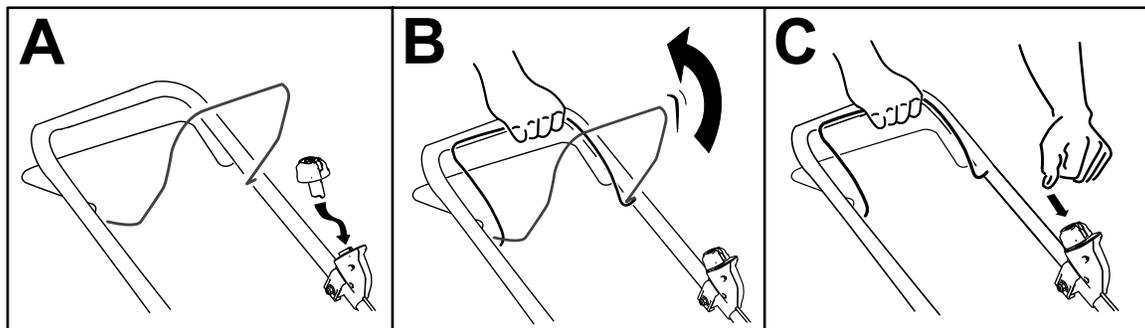

Figure 13
2. Insert the electric-start button into the electric starter switch (A of Figure 13).
3. Squeeze the blade-control bar and hold it to the handle (B of Figure 13).
4. Press the electric-start button and keep it pressed until the motor starts (C of Figure 13).